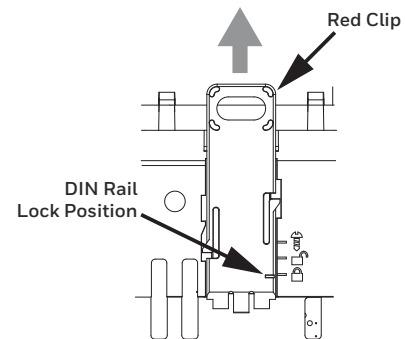

Fig. 7 Lock Position
2. Extend all red mounting clips to the unlock position as shown in figure 7.